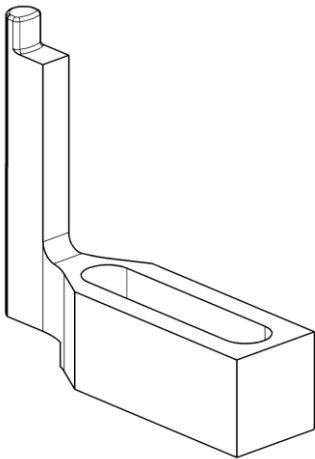

Figure 4: Assembly finger external assembly MFA, Range of inside seal diameter between $d_1=5$ mm and $d_1=60$ mm
- Six assembly fingers for external assembly (Figure 4) are required.